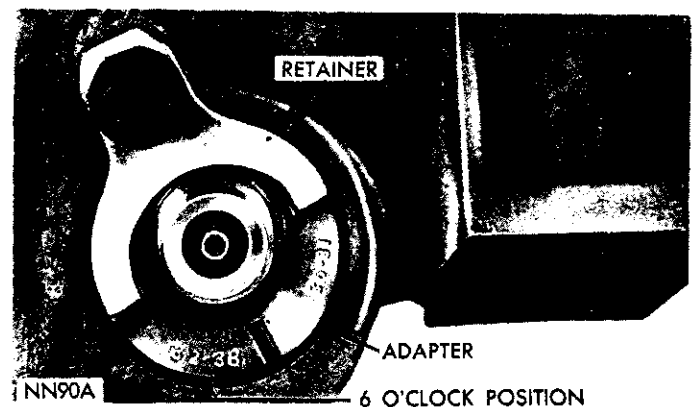
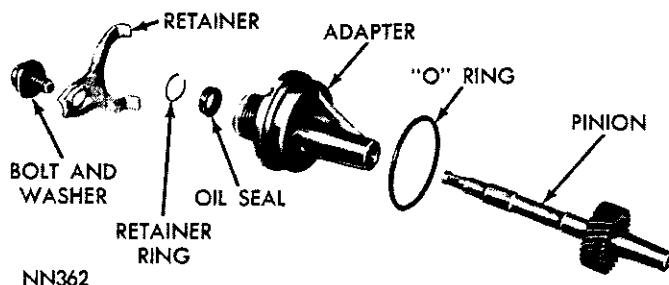
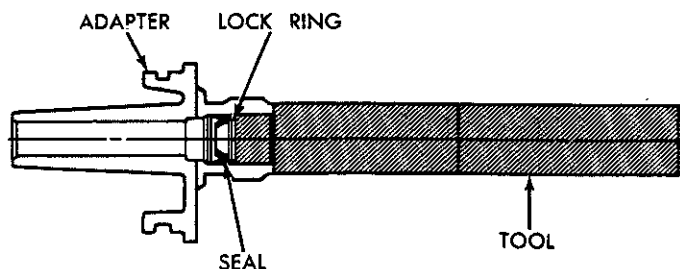

Fig. 7—Speedometer Pinion and Adaptor Installed
Fig. 8—Speedometer Pinion and Adapter—Disassembled
Fig. 9—Installing Speedometer Pinion Seal
(1) Place drain pan under adapter or drain transmission.
(2) Remove bolt and retainer securing speedometer pinion adapter in extension housing (Fig. 7).
(3) With cable housing connected, carefully work adapter and pinion out of extension housing.
(4) If transmission fluid is found in cable housing, replace seal in the adapter (Fig. 8). Start seal and retainer ring in adapter, then push them into adapter with Tool C-4004 until tool bottoms (Fig. 9).
(5) Note number of gear teeth and install speedometer pinion gear into adapter (Fig. 8).
(6) Rotate the speedometer pinion gear and adapter assembly so that the number on the adapter, corresponding to the number of teeth on the gear, is in the 6 o'clock position as the assembly is installed (Fig. 7).
(7) Install retainer and bolt, with retainer tangs in adapter positioning slots. Tap adapter firmly into extension housing and tighten retainer bolt to 100 inch-pounds.
- (1) Remove bolt and retainer securing speedometer pinion adapter in extension housing (Fig. 7). Carefully work adapter and pinion out of extension housing.
- (2) Remove bolts which attach extension housing to transmission case. Slide extension housing off mainshaft.